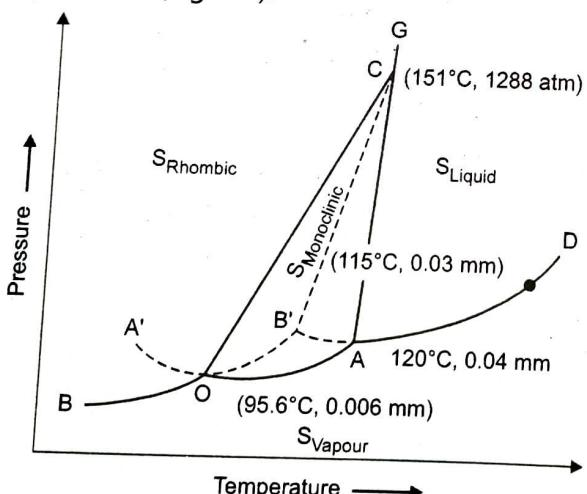

Fig. 2.2 : One component sulphur system
- Minimum one phase is required to define the system at equilibrium, i.e., when $P = 1$, $F = 2$. Thus, for sulphur system, the maximum number of degrees of freedom is two. These two degrees of freedom for one component system are pressure and temperature. The phase diagram for one component system can be represented by plotting a graph of pressure against temperature. (Fig. 2.2).